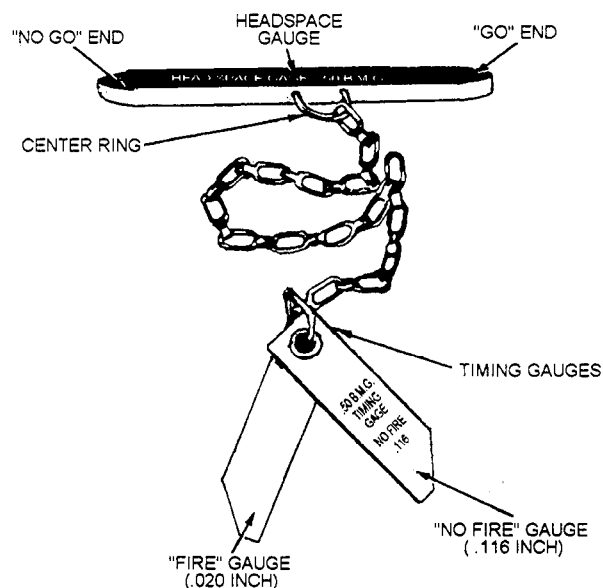

Figure 13-49.—Headspace and timing gauge set.
A special tool is used to check and set the headspace distance. It is called the "headspace gauge" and is part of the headspace and timing gauge set (fig. 13-49). The tool should be kept with the gun at all times. For now, we are only interested in the GO-NO-GO headspace
The timing of the gun is checked with the FIRE (.020 inch) and NO-FIRE (.116 inch) gauges, as shown in figure 13-49. Timing must be checked and/or set (1) each time headspace is adjusted and (2) whenever the